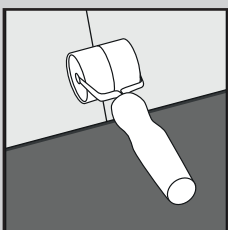

Fig. 4
5. Continue to install planks/tiles across the room until the row is complete using a hand roller to assist (Fig 4). Only if necessary, use a rubber mallet and an offcut of the product to gently tap the product together. A pull bar can be used to pull the product together around the edges of the room (Fig. 5).